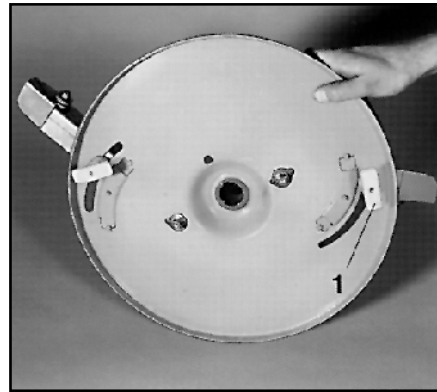

Fig. 7.11
- Loosen the two wing nuts (fig. 7.11/1) under the spreading disc, adjust the vanes, and then tighten the wing nuts again.